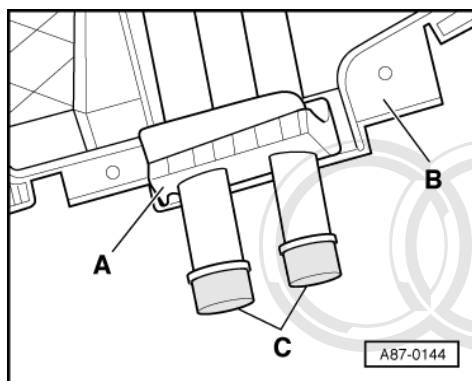

Fig.2 -> Attaching seal to evaporator refrigerant lines
- ♦ Attaching seal to refrigerant lines =>Fig. 2 .